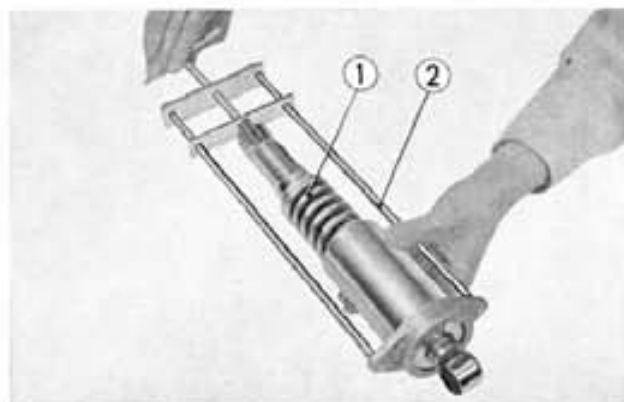

Fig. 12-3 ① Rear cushion spring ② Rear cushion disassembling tool
2. Remove the rear cushion spring using the rear cushion disassembling tool (Tool No. 07959-3290000). (Fig. 12-3)